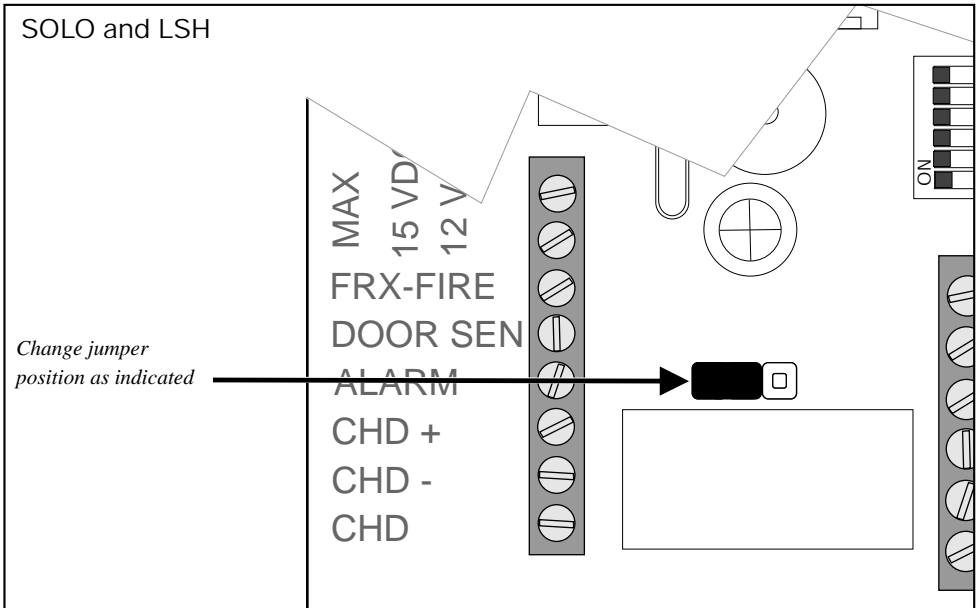

Figure 5 Solo and LSH jumper setting to test CHD Output
1. For the SOLO or LSH units move the jumper as indicated in figure 5.